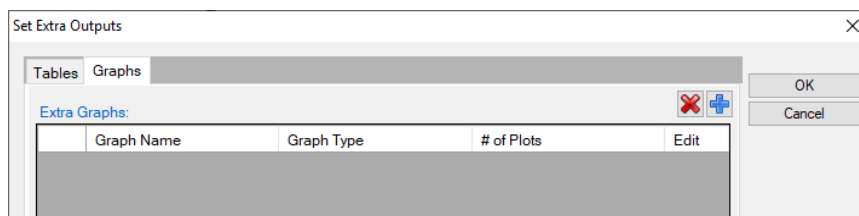
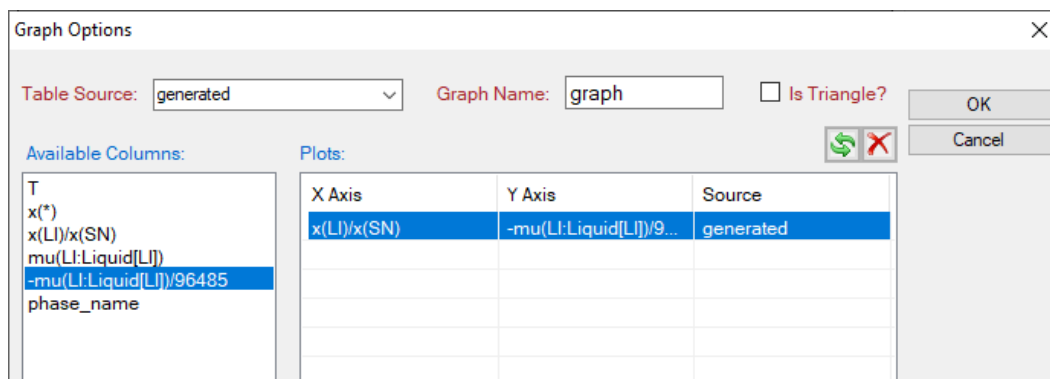

Figure 1.26.4. Set Extra Output Graphs interface
Figure 1.26.5. Output Graphs option interface.
- Set “Extra Outputs graph”. Click the icon “Graph” in “Set extra output” interface as shown in Figure 1.26.4, then click the blue “+” symbol to add extra Graph. An interface as shown in Figure 1.26.5 will appear. Select the “generated” table set in previous step in the “Table source”. Drag $x(\text{Li})/x(\text{Sn})$ from the left column to X axis in the right column; drag $-\mu(\text{Li:Liquid}[\text{Li}])/96485$ from the left column to Y axis in the right column. Then click OK.